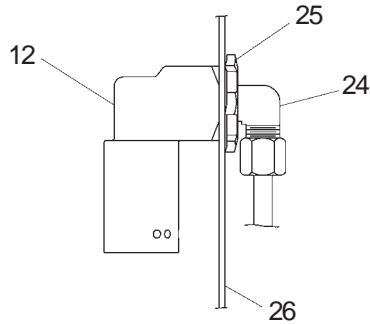

FIG. 5
2. Install spreader assembly into cuspidor body and attach straight end of copper tubing as shown in Figure 5. Route the tubing into the cuspidor compartment and install cuspidor body.